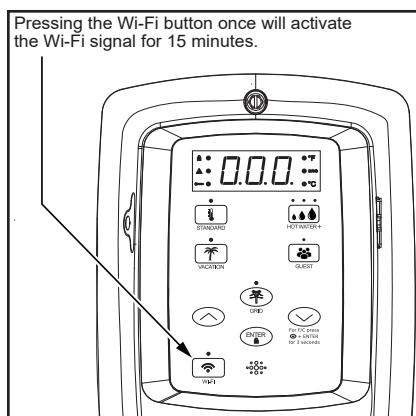

Figure 21 - Wi-Fi Control
- 1** To activate the Wi-Fi signal, press the Wi-Fi button once. The LED will blink on and off in 0.5 second intervals. Wi-Fi will activate pairing mode (Figure 21).